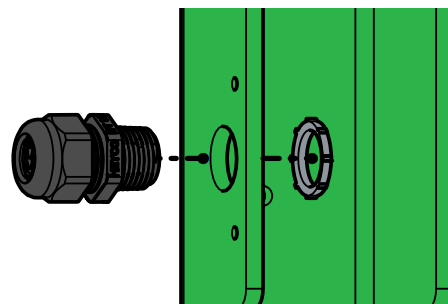

Figure 8. Strain Relief
12. Use the romex connector and lock washer and route the heater cord through the bottom hole in the pivot post (Figure 8).